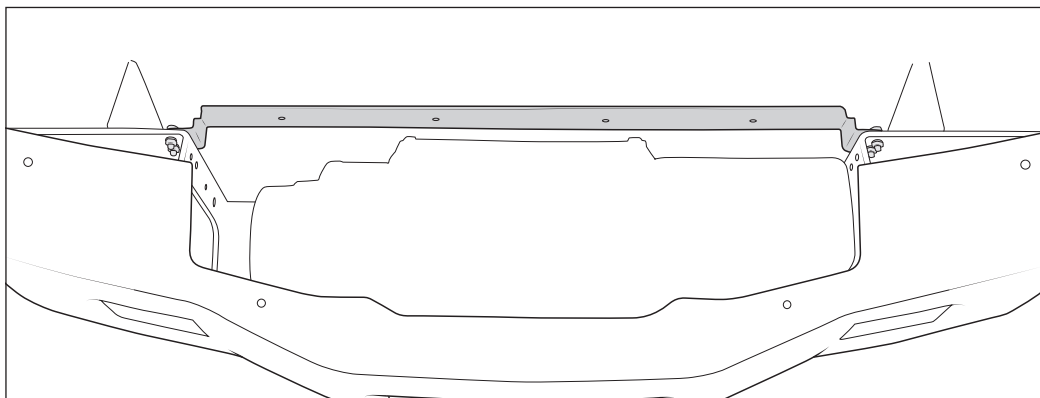

Figure 17
4. Diesel trucks continue to Section VI. Gas trucks, install the air dam bracket to the bumper using the four M6 nuts and bolts supplied in the air dam bracket kit. Torque to 9 lb-ft (fig. 17).